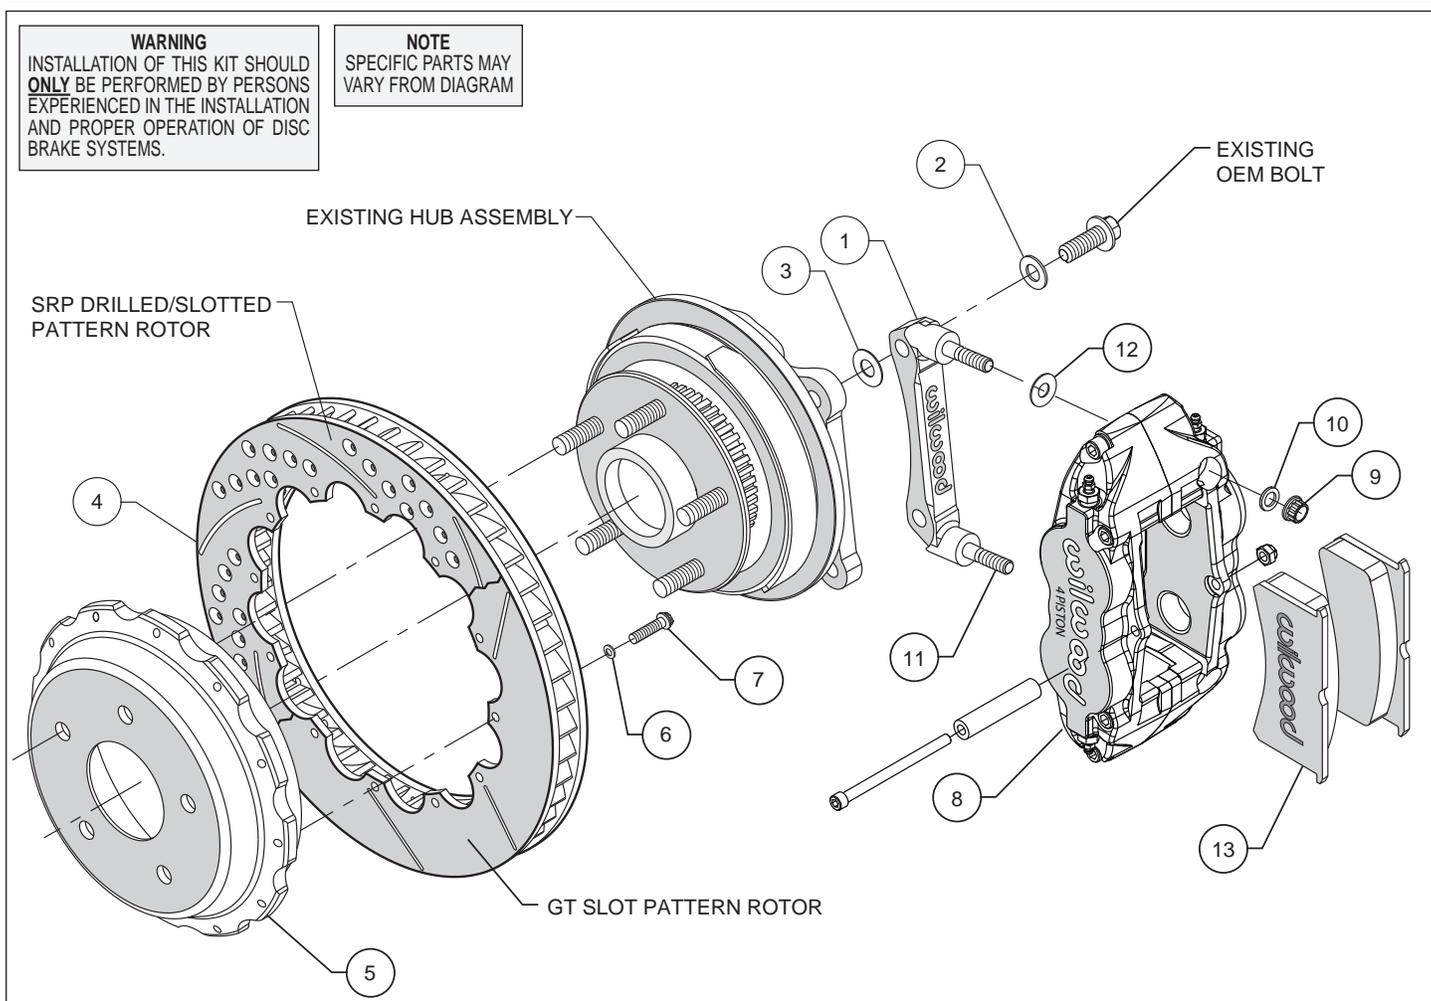
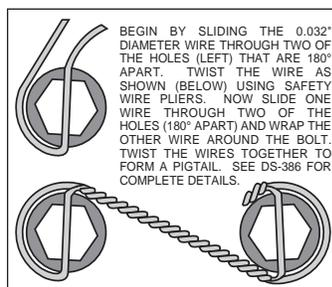

Figure 1. Typical Installation Configuration
Figure 4. Safety Wire Diagram
- The caliper mount bracket assembly (1) should be installed first with clean, dry threads on the existing OEM mounting bolts. Install the bracket from the rear side of the hub by sliding stock bolt through flat washer (2), through the caliper mounting bracket (1) and shim washer (3) through the OEM caliper mounting bracket ears as shown in Figure 1 and Photo 1. The bracket must tighten squarely against the inboard side of the caliper mount bosses on the upright. Inspect for interference from casting irregularities, machining ridges, burrs, etc. Use one thin shim (3) between the bracket and upright during initial trial fitting. Later, after the caliper, pad, and rotor alignment has been checked, and any necessary shims have been put in place, the mounting bolt threads should be coated with red *Loctite*® 271 and torqued to 75 ft-lbs.
- Orient the rotor (4) and hat (5) as shown in Figure 1 and Photo 2. Attach the rotor to the hat with bolts (7) and washers (6). Using an alternating sequence, apply red *Loctite*® 271 to the threads and torque bolts to 140 **in-lb**. For an added measure of security, the bolts may be safety wired using standard 0.032 inch diameter stainless steel safety wire as shown in Figure 4. Please refer to Wilwood's data sheet DS-386 (available at www.wilwood.com/Pdf/DataSheets/ds386.pdf) for complete safety wire installation instructions.
- Install one shim (12) over each stud (11) on the radial mount bracket (1), Photo 4. Slide the caliper (8) in place over the studs and rotor and install the washer (10) and lock nut (9) to hold the caliper in place, Photo 5. The caliper bleed screws should be pointing up. Snug the lock nuts (9) and check that the rotor (4) is centered in the caliper (8). Add or subtract .033" shims (3) as necessary between the caliper mount bracket (1) and the caliper mount bosses on the upright assembly to center the caliper.